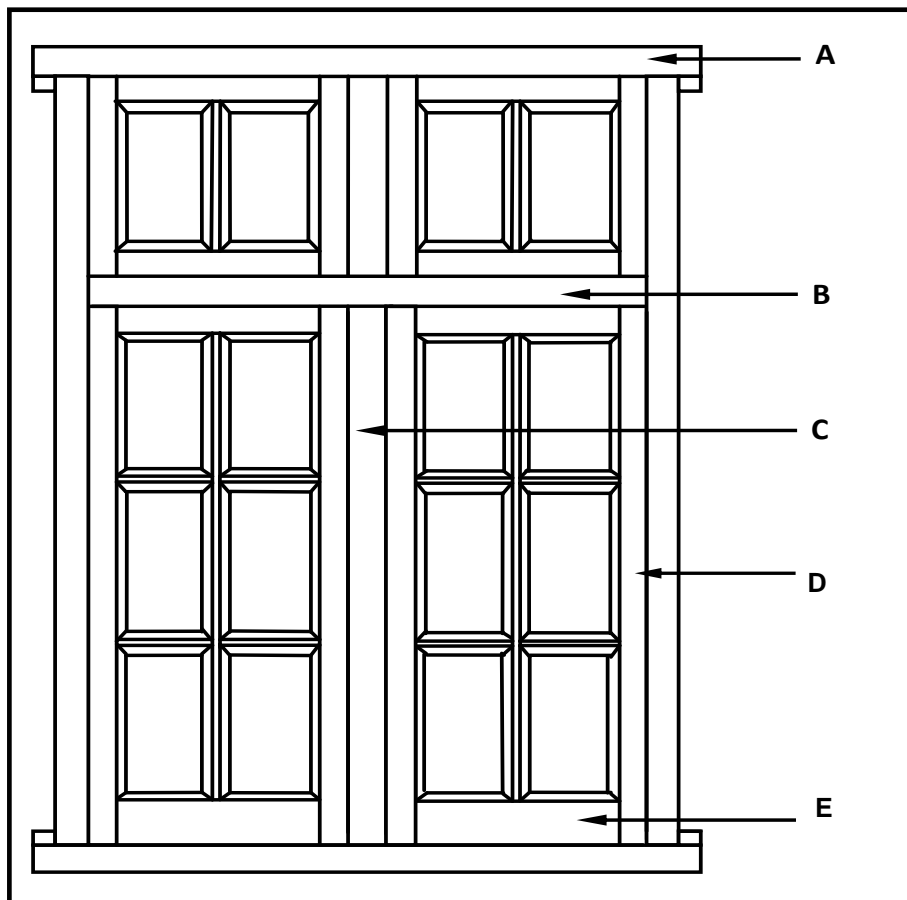

FIGURE 3.2
- 3.2 FIGURE 3.2 below shows an external elevation of a double casement with fanlights. Name parts **A–E**.